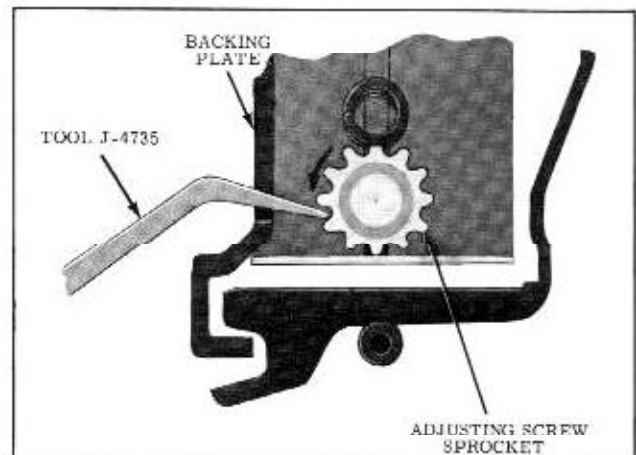

Figure 7-3 Brake Shoe Adjustment
3. Using Tool J-4735, Fig. 7-3, expand brake shoes by moving outer end of tool upward. Expand shoes until there is a heavy uniform drag at the wheel.